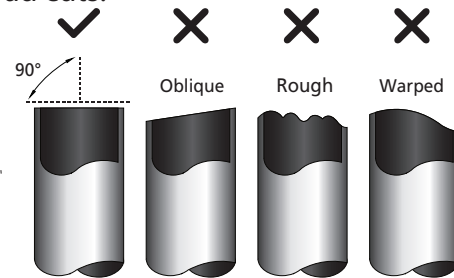

Fig. 7.1
1. Make sure the pipe is cut at a perfect 90° angle. Refer to Fig. 7.1 for examples of bad cuts.